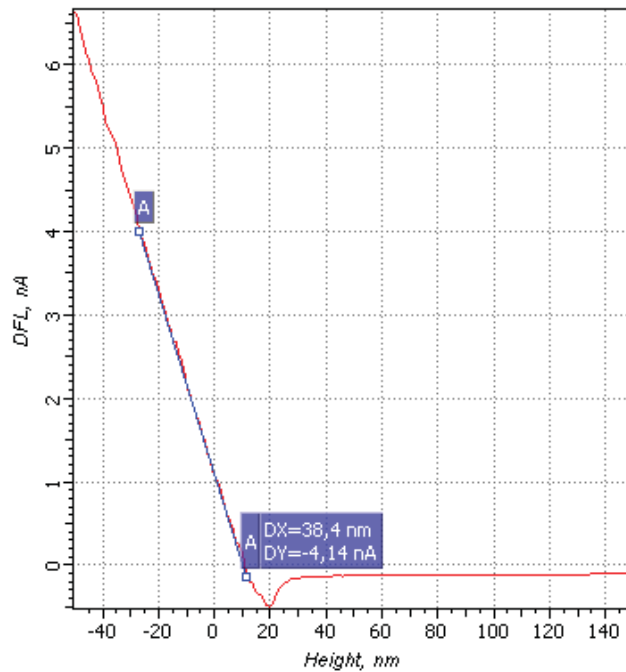

Fig. 13-9. Approach curve
7. Launch the acquisition procedure by clicking the  button. Spectroscopy acquisition will provide an approach curve (Fig. 13-9).
First, place the pair marker on the acquired approach curve (see Fig. 13-9). The first marker of the pair should be moved to the **Set Point** level while the second one is positioned at the **DFL** level immediately before the cantilever detaches the sample surface. ΔZ corresponds to **DX**.
Value of the $\Delta Height$ parameter is given by **DX** measured with the approach curve as shown in Fig. 13-9.